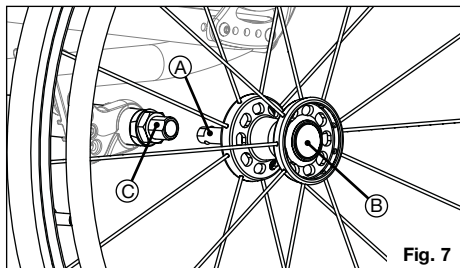

Fig. 7
- Push in the quick release button (Fig. 7:B) on the axle (Fig. 7:A) to allow the locking balls to retract. Make note of the difference between the extended and depressed position of the axle release button and its effect on the locking balls on the other end of the axle.
- Push on the quick release button again and slide the axle into the axle sleeve (Fig. 7:C).